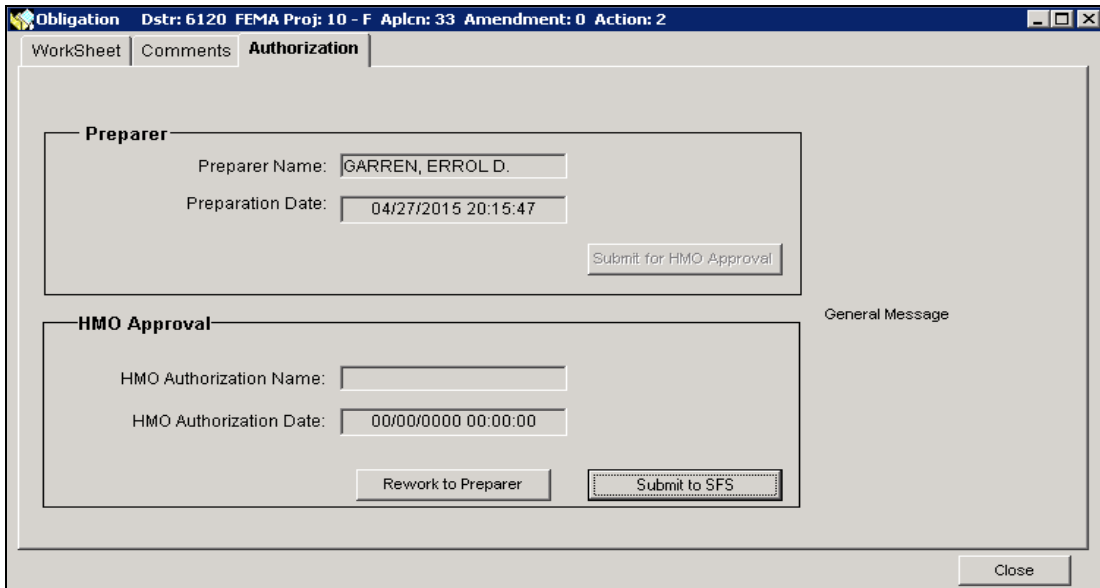

Figure 10-83: Mitigation > Funding > Obligations> Authorization Tab
5. Click the **Authorization** tab. On the bottom part of the tab, click the SUBMIT TO SFS button (Figure 10-83).